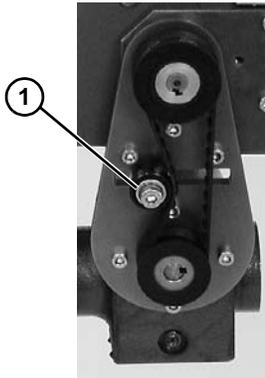

Figure 12
2. Loosen tensioner (**Figure 12, item 1**).